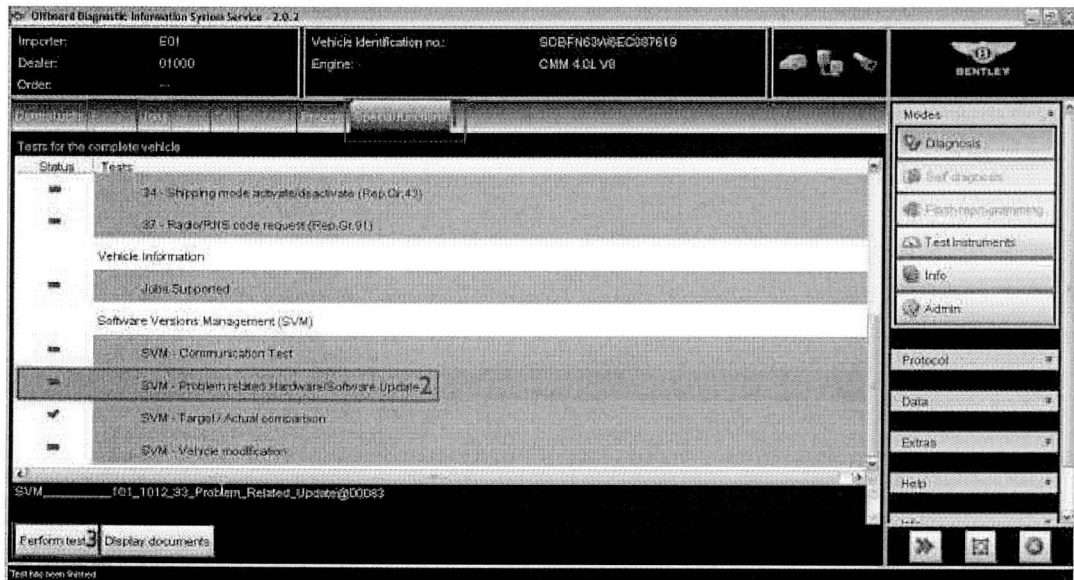

Figure 2
9. Select *Special functions* (1), Select *SVM – Problem related Hardware/Software Update* (2), Select
Perform test (3) (see Figure 2)